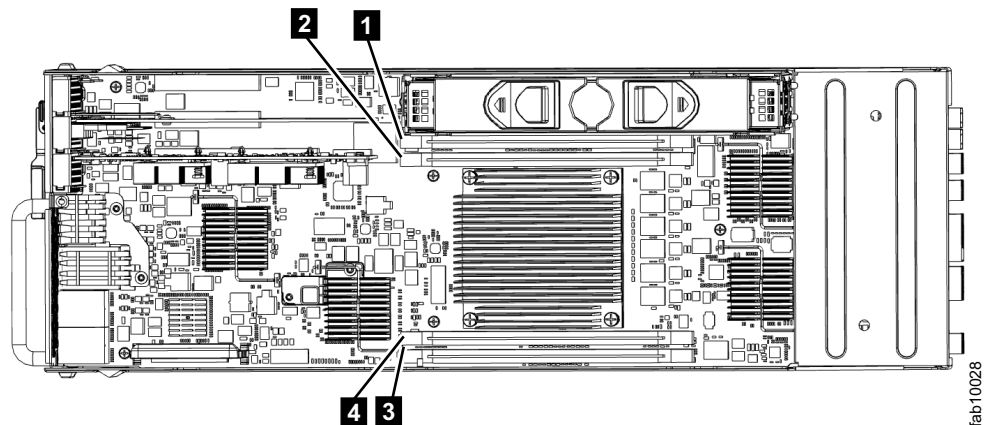

Figure 106. Installing a Storwize V7000 2076-524 node canister memory module
3. Locate the DIMM slot with the faulty DIMM. Slot 1 is next to the battery area. Slot 2 is next to the processor. The slots are marked 1, 2, 4, 3 as shown in Figure 106.
7. Gently place the DIMM in the slot, ensuring that the notches in the DIMM align with the shape of the slot, as shown in Figure 106.